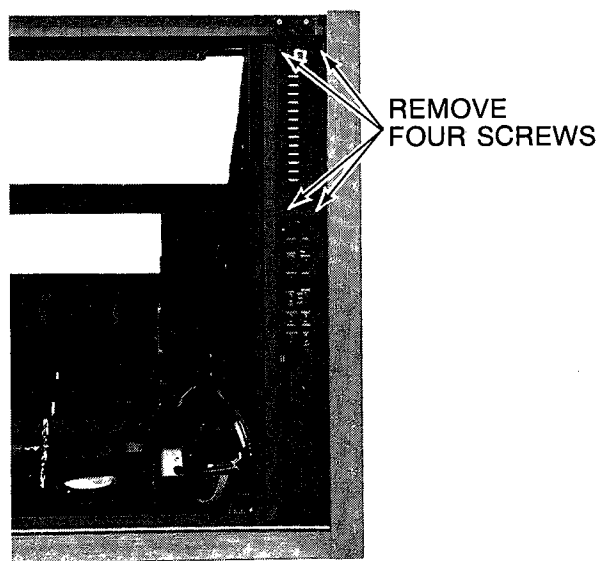

Fig. 13e — Control Block (Panel)
3. Remove four (4) screws holding control panel in place (Fig. 13e) slide panel out.